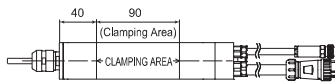

Fig. 15
- ① When mounting a motor spindle, refer to the Clamping Area etched on the spindle (Fig. 15).